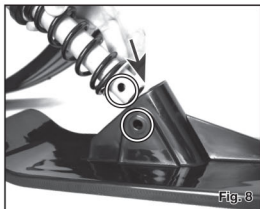

Fig. 8
9. Insert end of the Steering column① into fitted cut away area on the Mount of the front ski⑤. (See Fig. 8)